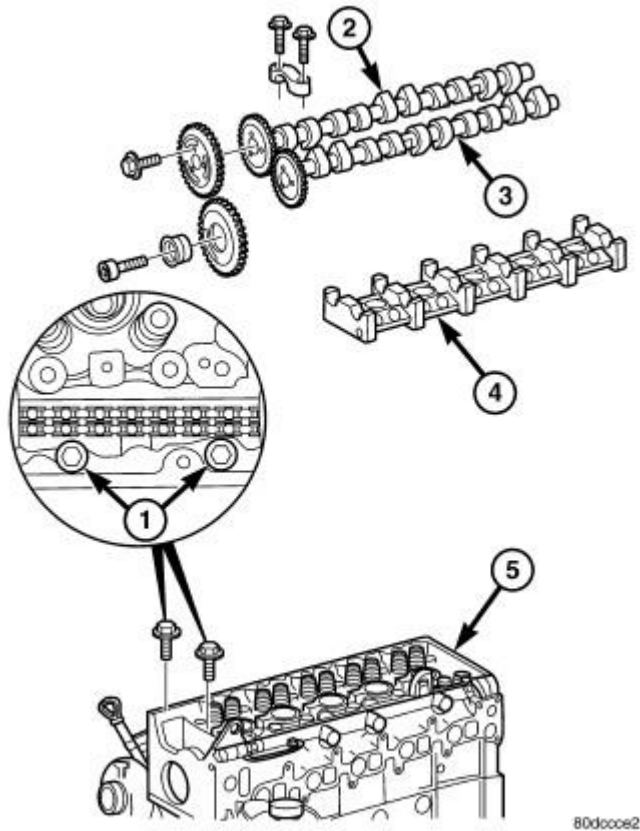

Fig. 109: Camshafts and Housing Assembly - Typical
16. Remove the inlet and exhaust camshafts. See Fig. 109.